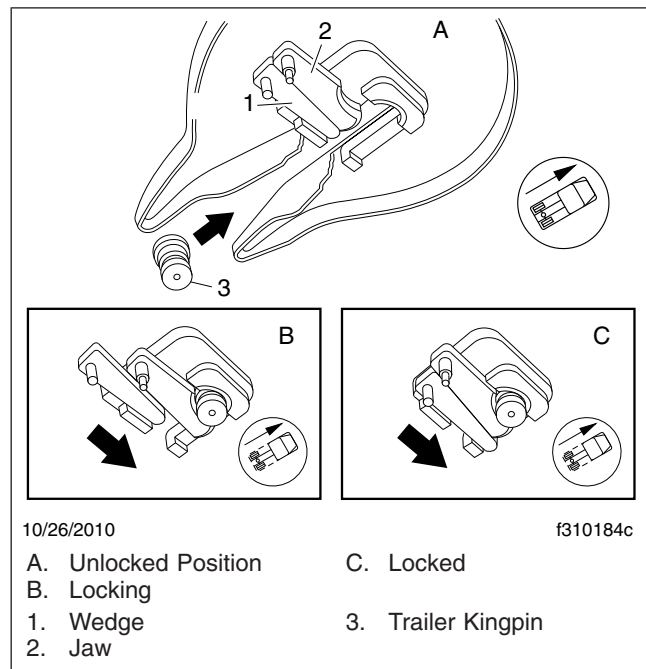

Fig. 10.16, Fontaine Kingpin Lock Mechanism
The Fontaine fifth wheel lock mechanism for the trailer kingpin (Fig. 10.16) consists of a spring-loaded jaw and a sliding wedge.
During coupling (**Fig. 10.16**), the motion of the kingpin entering the jaw will actuate the jaw and wedge. The jaw will move behind the kingpin, followed by the wedge. The purpose of the wedge is to reinforce the jaw and take up slack around the pin. Any wear on the jaw is immediately taken up by the wedge so there is no slack in the connection.
3. Position the tractor so that the fifth wheel lock opening is in line (both vertically and horizontally) with the trailer kingpin. The kingpin should be in a position to enter the throat of the locking mechanism (**Fig. 10.16**). Adjust the trailer landing gear to give enough alignment height for positive kingpin lockup.